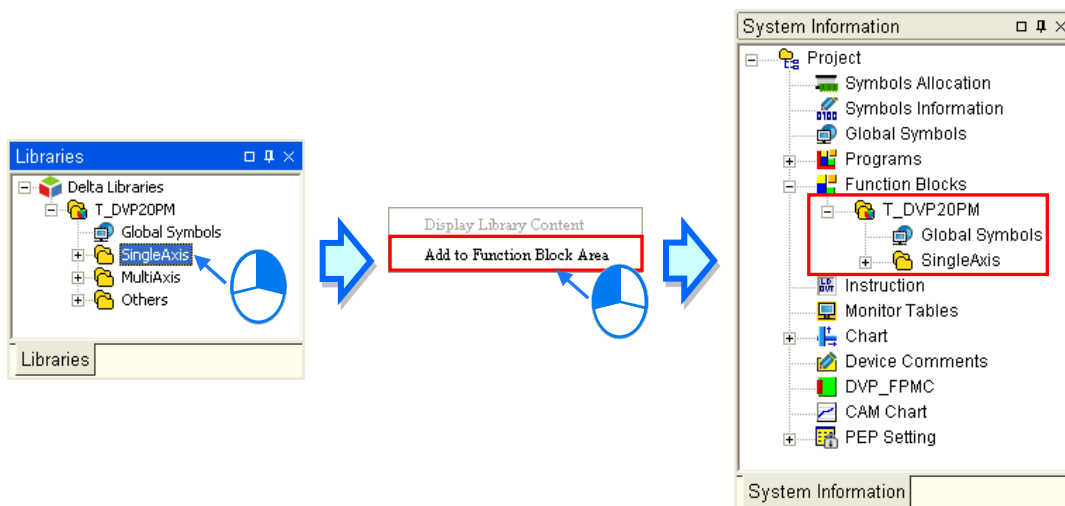

Figure 13-20 Adding libraries to the **Function Blocks** section
- (2) The users have to right-click the item which needs to be added in the **Delta Libraries** section. After the users click **Add to Function Block Area** on the context menu which appears, the item will be added to the **Function Blocks** section in the system information area, as shown in figure 13-20.